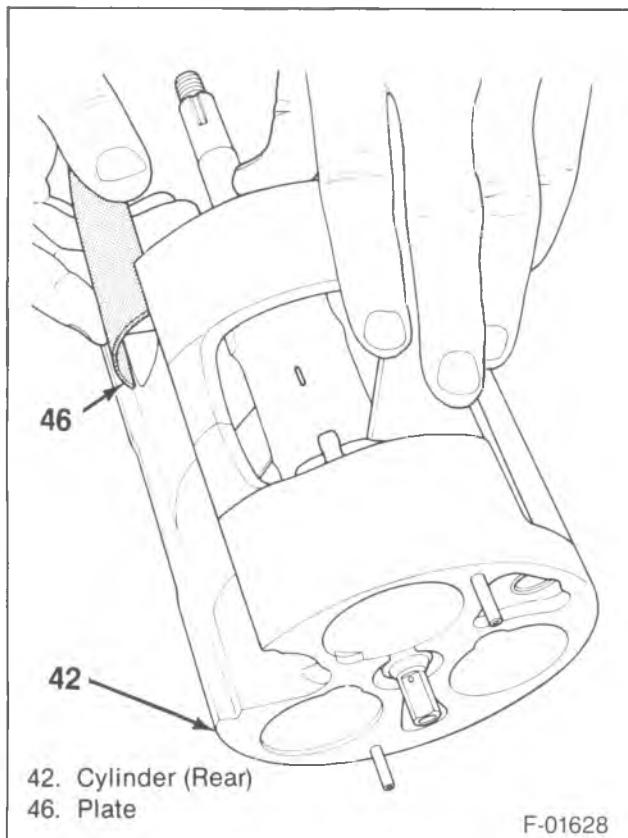
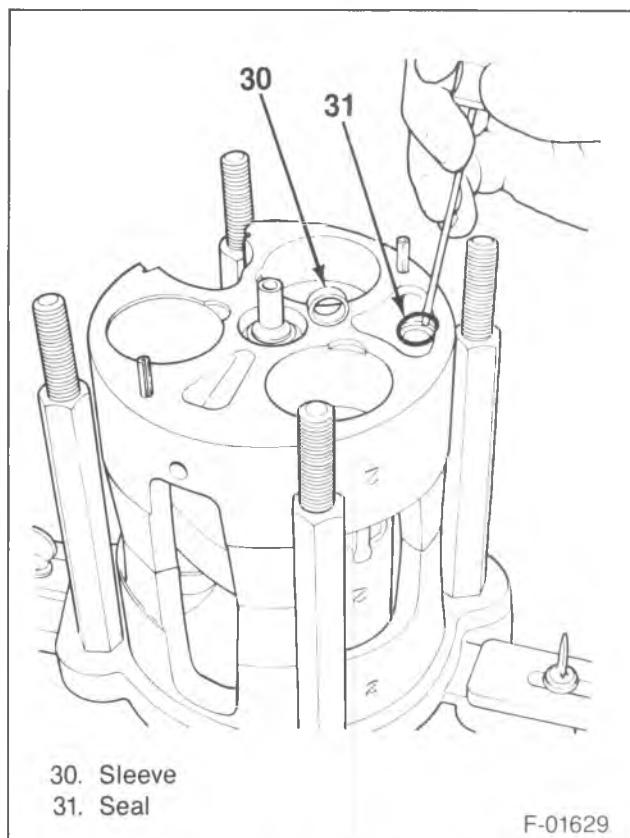

Figure 42—Installing the Suction Crossover Tube Plate
Figure 43—Installing the Discharge Crossover Tube
8. Suction cross-over cover (46) (figure 42).
- Compress the cover (46) to start it into the slot.
- Press or tap the cover (46) until the ends are flush.
9. Seal 925) and bushing (24) to the front end of the discharge cross-over tube (26) (figure 43).